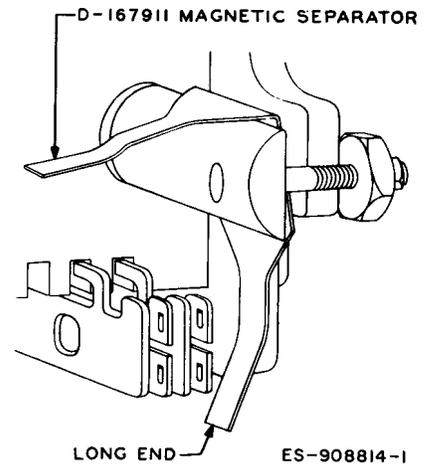
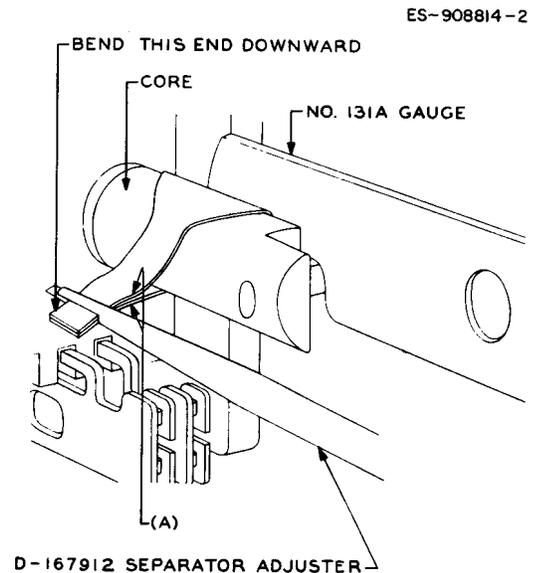
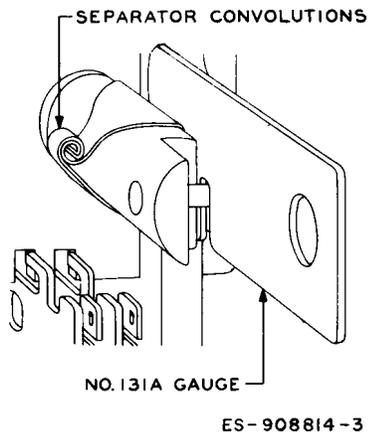
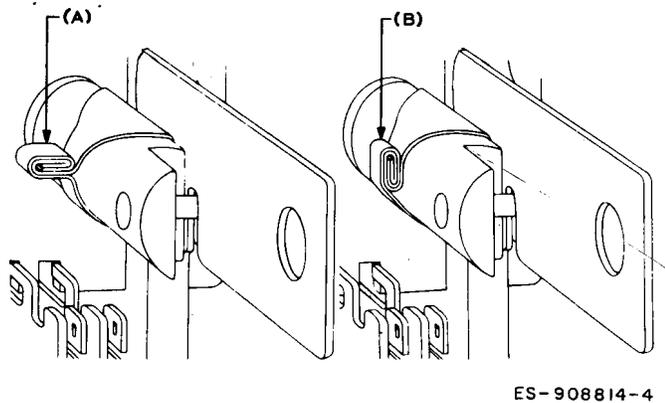

Fig. 4—Method of Inserting D-167911 Magnetic Separator in Armature Gap
Fig. 5—Method of Using D-167912 Separator Adjuster
Fig. 6—D-167911 Separator Convolution After Removal of D-167912 Separator Adjuster
Fig. 7—Flattening of Separator Convolution
(1) To remove the magnetic separator from the core, insert the 3-inch C screwdriver between the convolutions of the separator and the core and pry the convolutions open. Remove the separator with the fingers.
(2) To place a magnetic separator on the core, insert the long end in the armature gap from the top and pass it down between the core and the armature until the bend of the separator rests approximately on the top edge of the core pole face as shown in Fig. 4. With the front edge of the separator close to the adjusting stud, insert the 0.020-inch blade of the 131A gauge into the armature gap as shown in Fig. 5, and electrically energize the relay. While holding the relay manually operated, disconnect the current from the relay, and with the gauge in place, pull the separator downward with the 485A pliers until the bend of the separator fits snugly against the upper edge of the core pole face. Hold the separator in this position and electrically energize the relay so the gauge presses the separator firmly against the core pole face. With the KS-6320 orange stick bend the lower end of the separator around the lower end of the core so it clears the relay springs. Grasp the lower end of the separator with the 485A pliers and pull it toward the left in line with the lower edge of the core, at the same time rubbing the separator with the orange stick to shape it around the lower edge of the core. Release the relay and slide the separator to the rear of the core pole face.
(3) Electrically energize the relay against the 131A gauge inserted in the armature gap. Shape the separator around the core with the orange stick and fingers so the two narrow bands
come nearly together at (A) Fig. 5. Place the flat surface of the long point of the D-167912 magnetic separator adjuster against the underside of the bottom band of the separator and press upward with the adjuster, at the time pressing down on the upper band of the separator with a forefinger. When the two bands contact, push the adjuster forward so the two bands slide into the slot. Move the adjuster to the left until the length of the separator extending to the left of the adjuster is only slightly greater than the
width of the adjuster as shown in Fig. 5. Hold the adjuster so both ends of the separator coincide and bend the tips of the separator which project through the adjuster downward with a finger or orange stick. Then holding the adjuster horizontally in line with the core, move the handle of the adjuster slightly to the left so the side of the tapered end of the adjuster nearest the core is parallel to it. Then twist the adjuster in a clockwise direction until the ends of the separator are firmly wound together concentrically and the separator fits snugly all around the core as shown in Fig. 6. With the relay still energized, lift the gauge off the stud and with a rotary motion move it up and down between the armature and the separator two or three times to flatten out the entire surface of the separator against the pole face. Again rotate the adjuster to ensure that the separator is tight. Then hold the separator in place with a finger tip and withdraw the adjuster. Flatten the convolutions of the separator with the 485A pliers as shown at (A) Fig. 7; then fold the flattened convolutions in a clockwise direction with a finger or the orange stick against the rear of the core as shown at (B) Fig. 7. Again rotate the 131A gauge. Release the relay and remove the gauge.